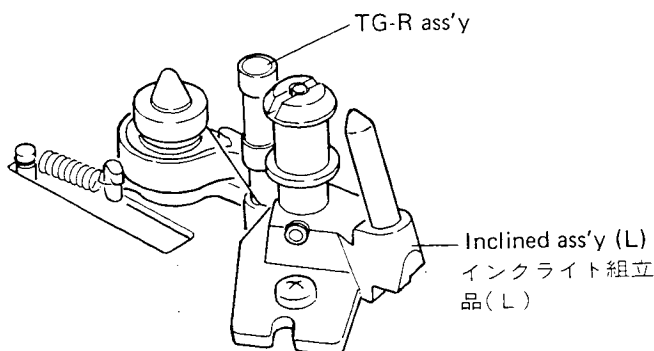

Fig. 2-11
Note 2: When installing inclined ass'y (L), install it so that the TG-R ass'y comes above inclined ass'y (L) as shown in Fig. 2-11.
注2. インクラインド組立品(L)の組込み時、図2-11の様